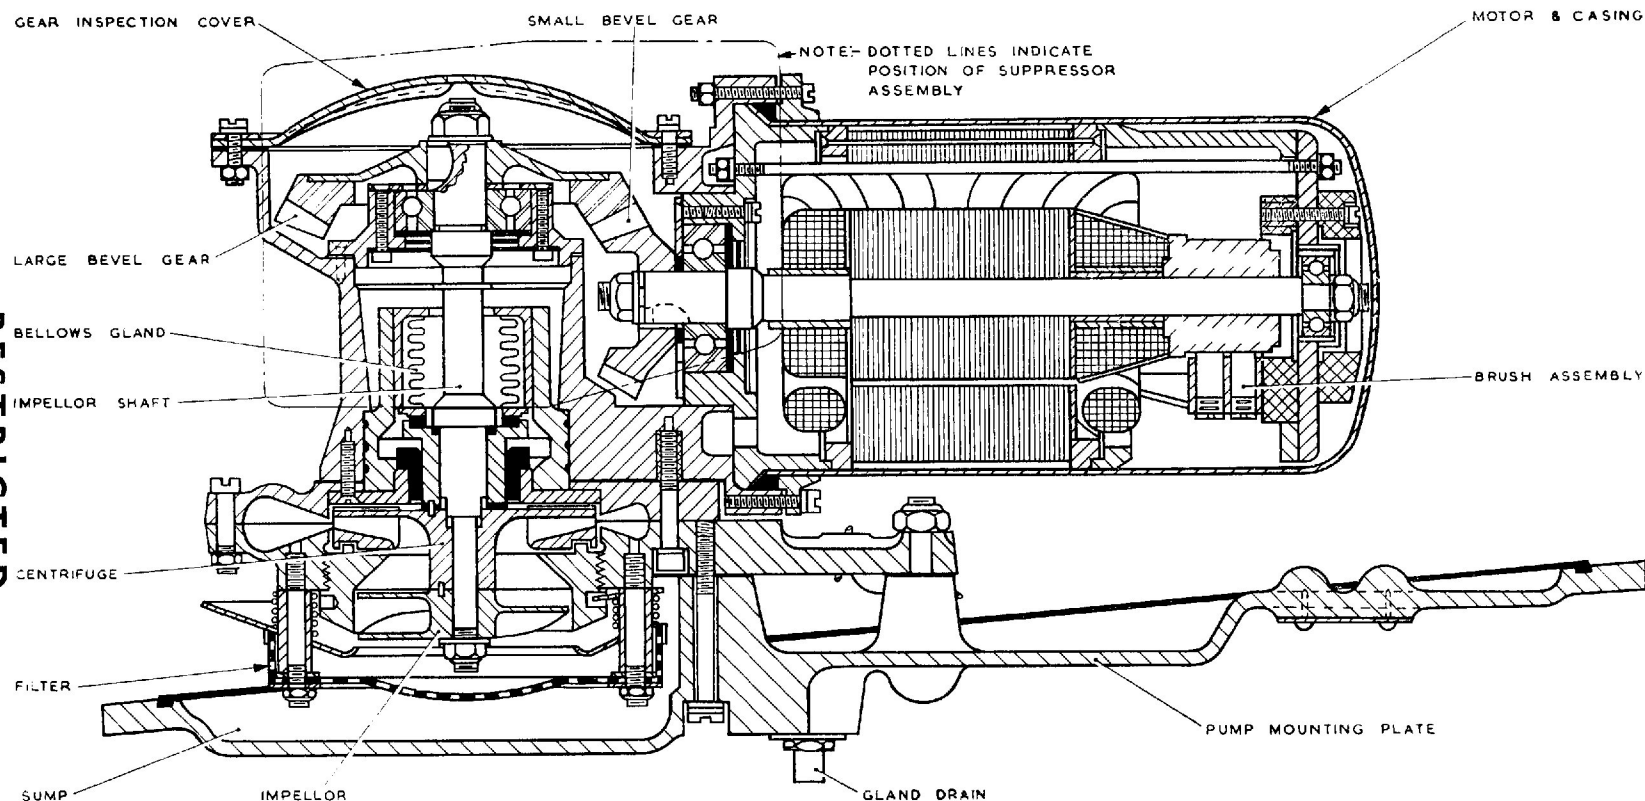
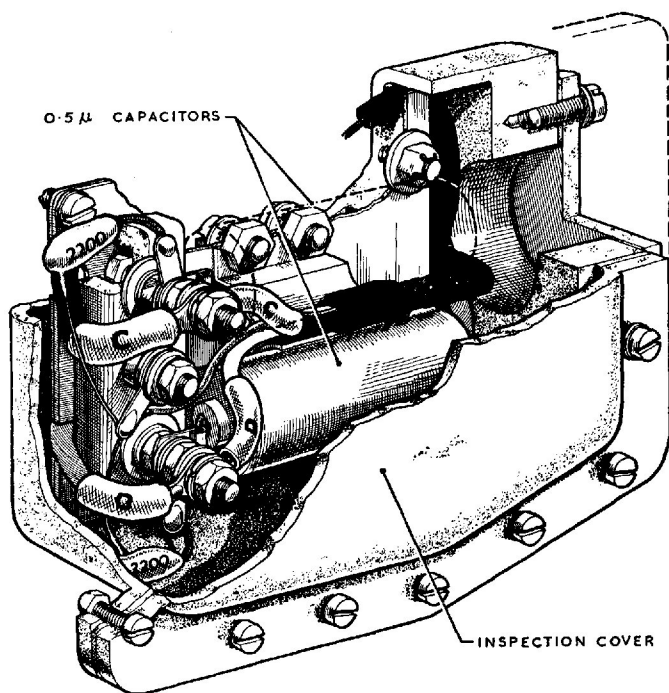

Fig. 2. Sectional view of SPE 807, Mk. 2 fuel pump
Fig. 3. Sectional view of suppressor assembly
3. The motor of the pump is a totally enclosed, compound wound, two-pole machine, provided with a suppressor unit, comprising two 0.5 microfarad capacitors for radio noise suppression (*fig. 3*). Under normal operating conditions, the motor speed is 9,750 r.p.m., with a current consumption of 2.5 amp.
6. Fitted in a recess at the side of the pump body is a suppressor assembly (*fig. 3*), for radio noise suppression; its position relative to the pump is shown as dotted lines (*fig. 2*). The suppressor assembly comprises two 0.5 microfarad capacitors; an inspection cover provides easy access to the electrical connections.